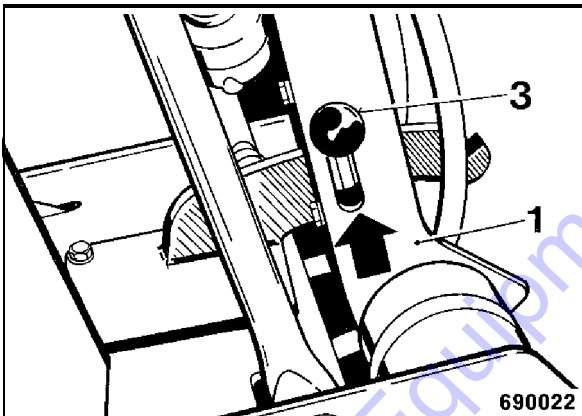

Fig. 22
- Adjust steering rod 1 (Fig. 22) upright and engage locking lever (3) in the notched rail.